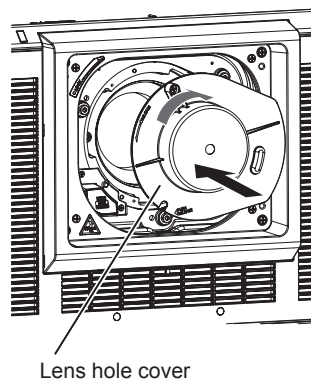

Fig. 2
**3) Attach the supplied lens hole cover. (Fig. 2)**